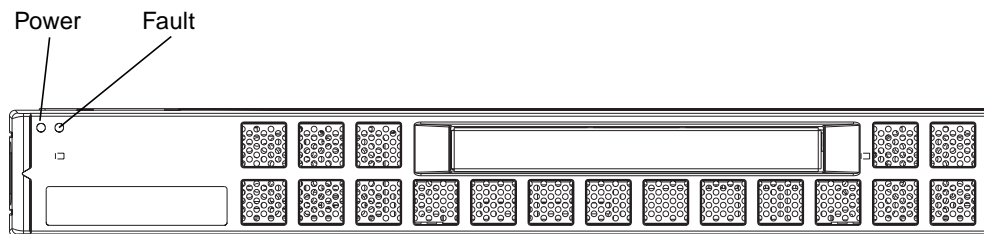

FIGURE 9-3 Front Panel Power and Fault LEDs
- A power indicator (see FIGURE 9-3).
- A fault indicator (see FIGURE 9-3).